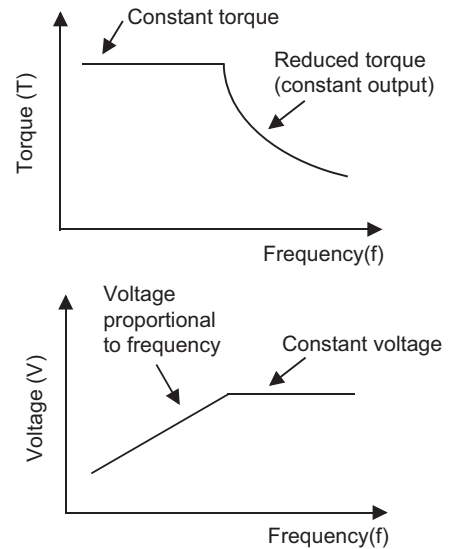

Fig.2.8 Constant torque and constant output range
- (1) If the V/F ratio and current are constant, the torque is constant.
- (2) When the voltage (V) is constant and only the frequency (f) varies, the torque is inversely proportional to the frequency if the motor current is constant.
- The relationship between the voltage and the torque to the change of frequency described as above is shown in Fig.2.8. The relationship between the output voltage and output frequency of the inverter is called "V/F pattern". This is an important factor to control the motor.